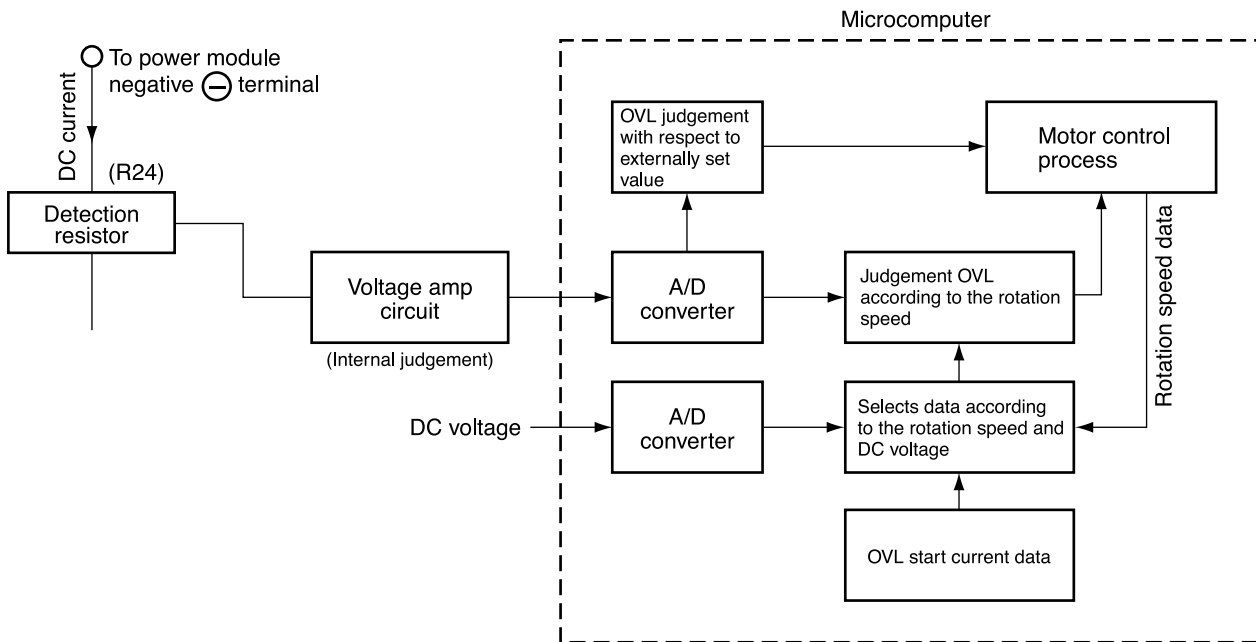
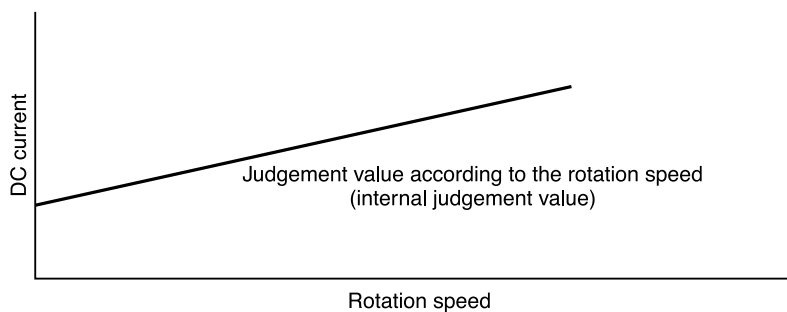

Fig. 8-4 Overload Control System Configuration
Fig. 8-5
- As shown in diagram, if current exceeding 21A (27A for RAC-50NPA) flows, voltage at point (A) recognized by detecting resistor is input to pin ⑩ of SPM2 – HIC, and voltage divided by R41 and R43 is input to pin ⑨ of IC1. Since threshold of IC1 is exceeded in this case, Lo signal is input from pin ⑧ (Voltage at point (B)). When Lo signal is input to pin ⑰ of microcomputer, microcomputer stops drive output.
(2) Overload control circuit (OVL control circuit)
- Fig. 8-4 shows the overload control system configuration and Fig. 8-5 is a characteristic diagram of overload judgement values. There are two judgement methods-external judgement which compares the externally set value with the DC current value regardless of the rotation speed and internal judgement which compares the set value that varies according to the rotation speed programmed in the microcomputer software with the DC current value.